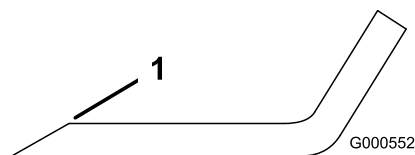
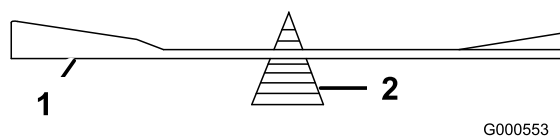

Figure 54
Figure 55
1. Use a file to sharpen the cutting edge at both ends of the blade (Figure 54). Maintain the original angle. The blade retains its balance if the same amount of material is removed from both cutting edges.
2. Check the balance of the blade by putting it on a blade balancer (Figure 55). If the blade stays in a horizontal position, the blade is balanced and can be used. If the blade is not balanced, file some metal off the end of the sail area only (Figure 54). Repeat this procedure until the blade is balanced.